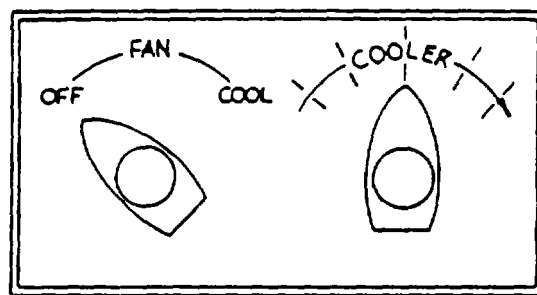

FIGURE 5. CONTROL SWITCHES
- 11) Turn selector switch from FAN to COOL position. Also turn thermostat knob clockwise. See Figure 5 below:
- 2.1.4 To provide ventilation without cooling, turn the knob of the selector switch to the FAN position. This operates the evaporator fan motor only. See Figure 5.
- A) The electrical controls for the NAC-600 air conditioner consists of two (2) switches:
1. A three (3) position rotary selector switch, Drawing 001R101, for positions of OFF-FAN-COOL.
2. A temperature control thermostat, Drawing 076R100, which decreases or increased the air conditioners cooling temperature (refer to Figure 5)